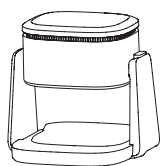

Fig 13
- ① Adjust the machine to air frying status(Fig13)